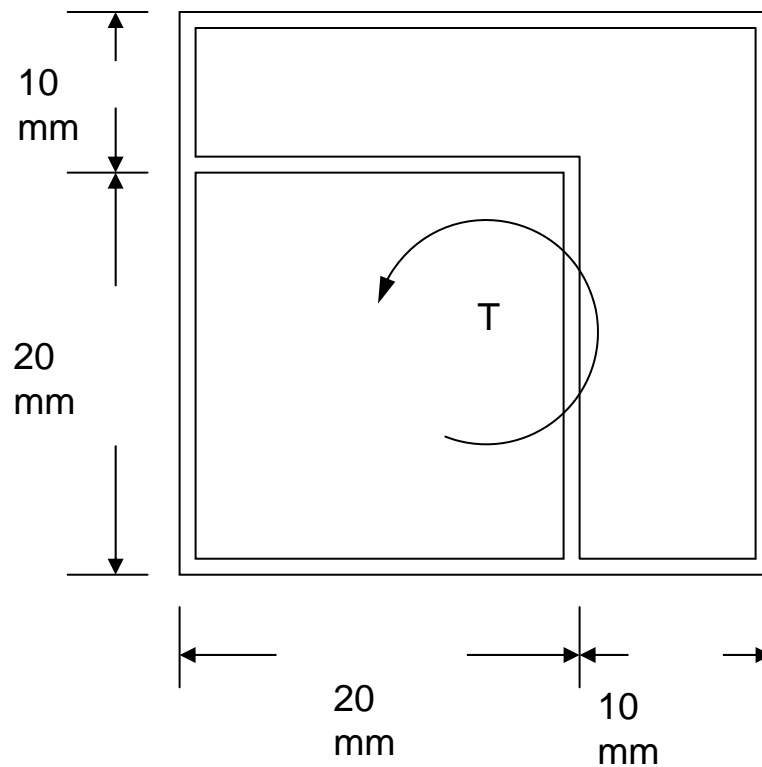

Fig. 1
1. A two cell box beam as shown in Fig. 1 is subjected to a pure torque, T . If the maximum shear stress in the beam is 60 MPa (neglecting stress concentrations), determine the applied torque, T , and the rate of twist ($G = 50 \text{ GPa}$).